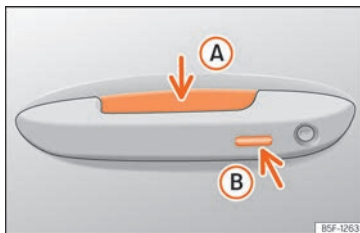

Fig. 77 Door handle: sensor surfaces
»» Fig. 77
- Grip one of the front door handles. When you do this, you touch the sensor surface » Fig. 77 (A) (arrow) of the handle and the vehicle unlocks.
- Touch (once) the locking sensor surface » Fig. 77 (B) (arrow) on one of the front door handles. The door that is used must be closed.
- Touch (once) the sensor surface » Fig. 77 (B) (arrow) on one of the front door handles. The vehicle locks with the "Safe" security system » page 97. The door that is used must be closed.
- Touch (twice) the sensor surface » Fig. 77 (B) (arrow) of one of the front door handles to lock the vehicle without activating the "Safelock" security system » page 97.
- Push the central locking button  on the remote control and touch the locking sensor surface of the driver door handle »» Fig. 77  within the following 5 seconds. Do not grasp the door handle; otherwise the vehicle will not unlock. Deactivation is also possible if the vehicle is locked through the driver's door lock.
To close all the electric windows and the sunroof using the **comfort function**, keep a finger for a few seconds on the locking sensor surface »» Fig. 77  (arrow) of the door handle until the windows and roof have closed.
The sensor surfaces on the door handles could engage if hit with a water jet or high pressure steam if there is a valid vehicle key in the proximity. If at least one of the electric windows is open and the sensor surface »» Fig. 77  (arrow) on one of the handles is activated continuously, all windows will close.